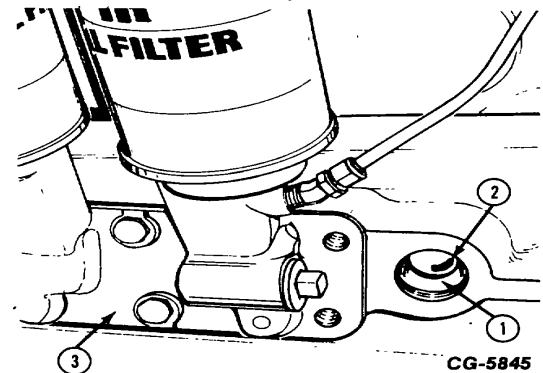

Figure 14. - Pressure Regulator Valve Bore (AE Application Shown)
1. Locate oil drain hole in the crankcase pressure regulator valve bore (Fig. 14).
2. With oil pressure regulator valve removed, inspect for proper dimensions of oil drain hole (2, Fig. 14).